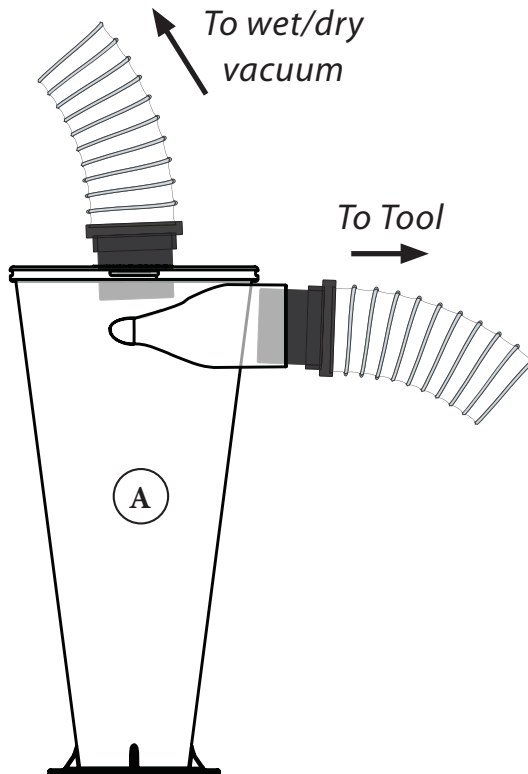

FIG. 5
Connect Cyclone's (A) inlet (sideways facing port) to your dust producing tool with your hose or ductwork. Connect the Cyclone's (A) outlet (top port) to your vacuum with the provided hose, your hose, or ductwork [FIG 5]. Both inlet and outlet accept standard 2.5" hose cuffs (OD \approx 2.25") .